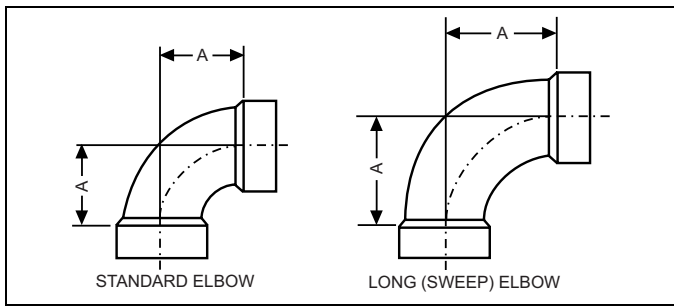

FIGURE 27: Dimensions
1. Drain, waste, and vent (DWV) elbows with a long radius (sweep) are recommended. Standard DWV elbows may be used, but since they have a longer equivalent length, they will reduce the total length of pipe that will be allowed. Short radius (plumbing or pressure) elbows are not allowed for venting. The standard dimensions of the acceptable elbows are shown in Figure 27.
Elbow	“A” Dimension (Illustrated in Figure 27)